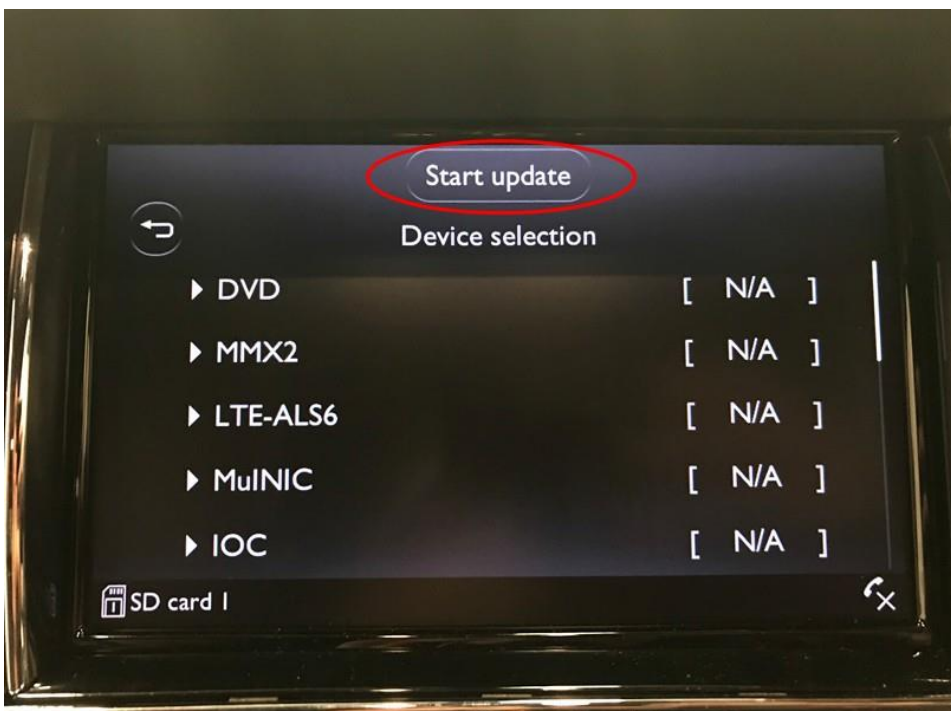

Figure 8
7. Select Start update (Figure 8).